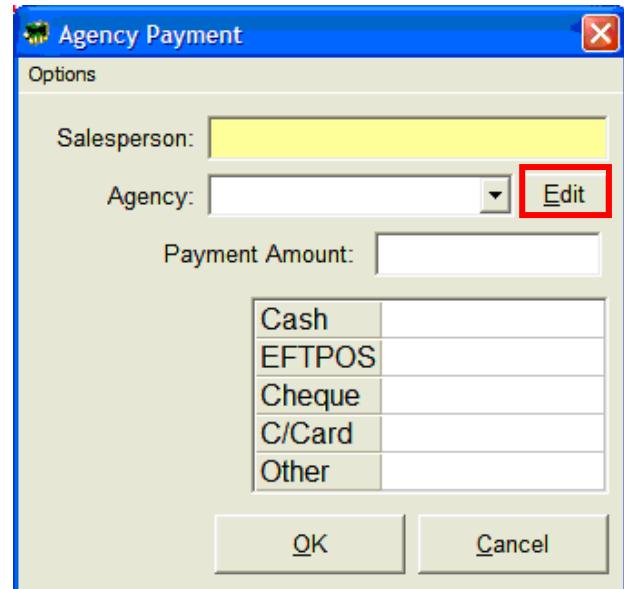

Figure 50
1. To add an Agency, select the 'Edit' button (as shown in Figure 50).